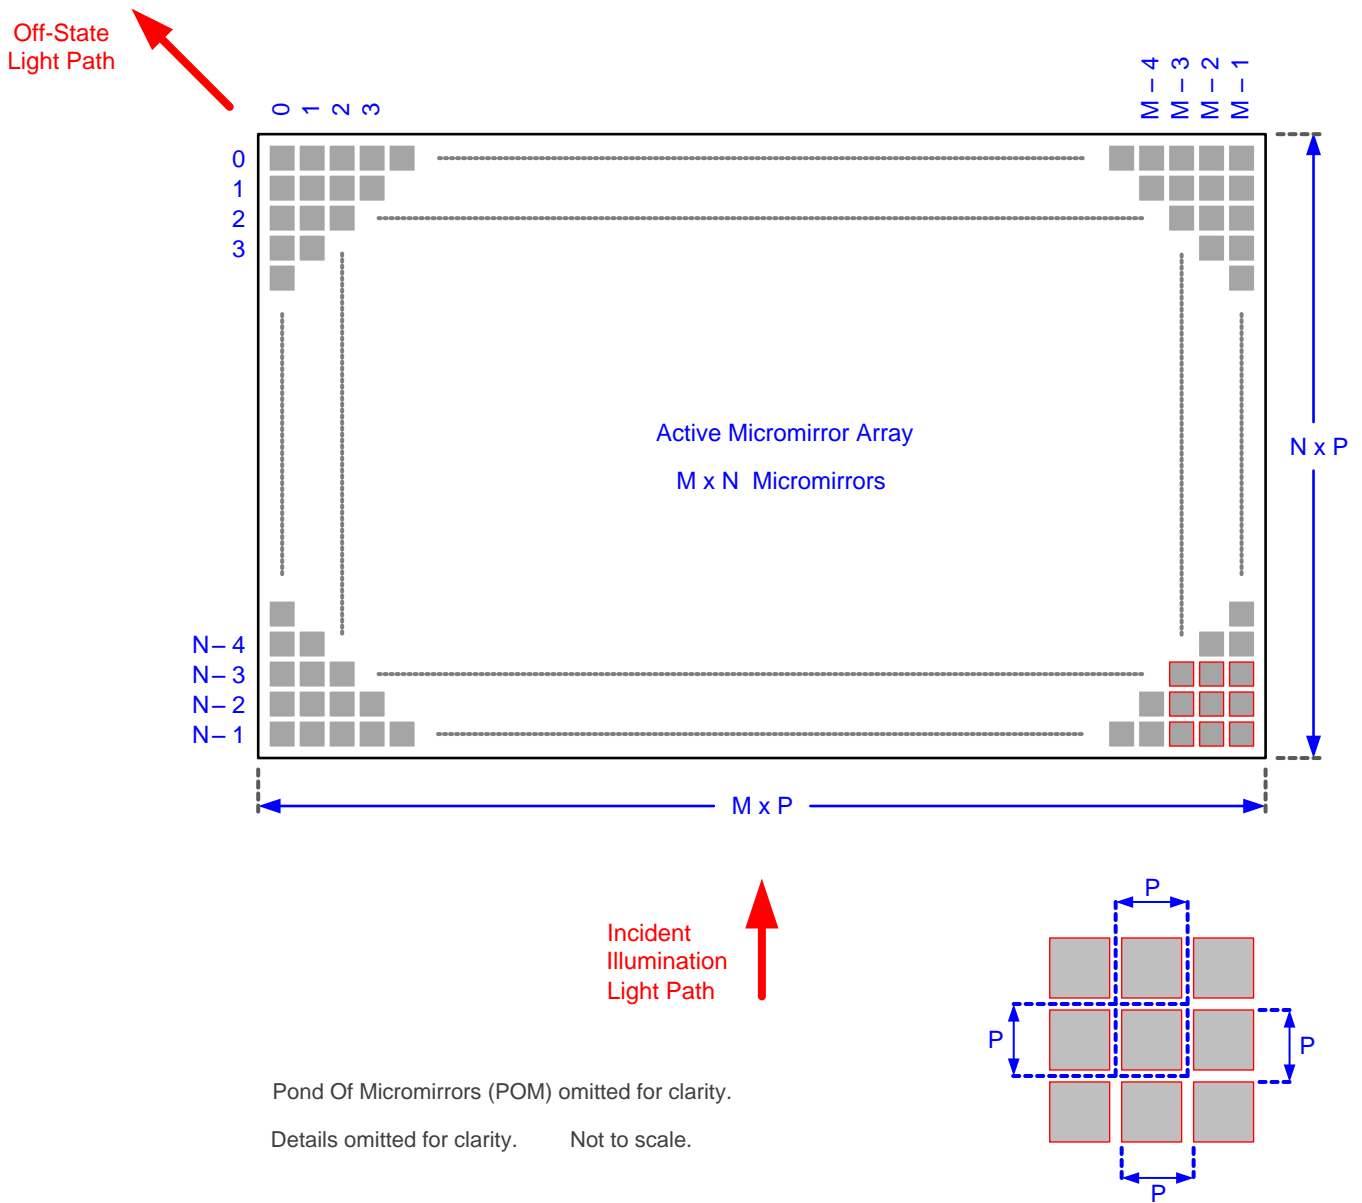

Figure 8. Micromirror Array Physical Characteristics
(1) See Figure 8.
(2) The structure and qualities of the border around the active array includes a band of partially functional micromirrors referred to as the *Pond Of Mirrors* (POM). These micromirrors are structurally and/or electrically prevented from tilting toward the bright or ON state but still require an electrical bias to tilt toward the OFF state.